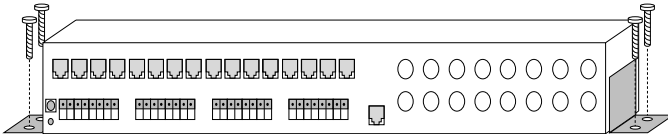

Fig. 1 (Wall/Desk-Mounting)
- a. Wall-mounting – attach the two included mounting brackets to the sides of the VPD Combiner (see fig. 1). Then attach to a wall with the four included screws and, if needed, optional screw anchors.